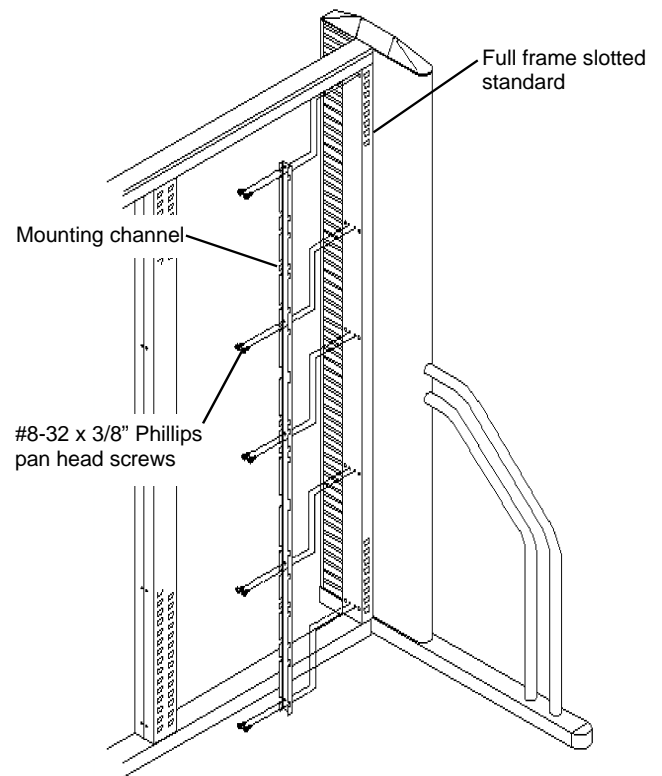

Figure 1a
1. Attach the steel **Mounting Channels** to the side of the Full Frame Slotted Standards, using the #8-32 x 3/8" Phillips pan head thread forming screws provided. See **Figure 1a**.